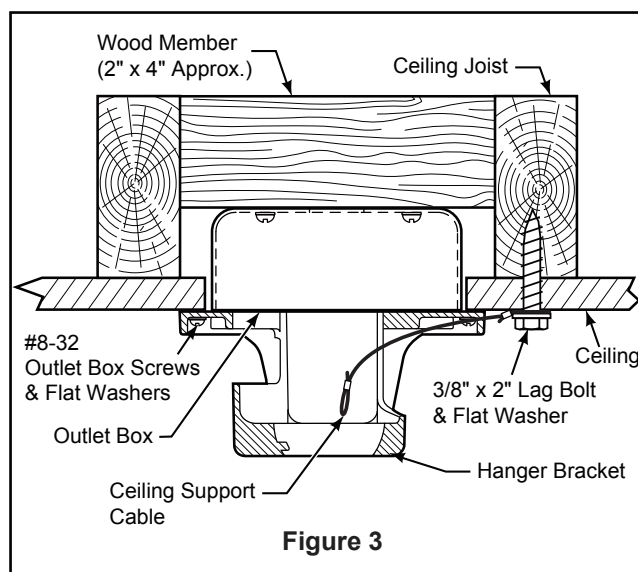

Figure 3
1. Securely attach the hanger bracket to the outlet box using the #8-32 outlet box screws and washers supplied with the fan. (Figure 3)
2. Drill a 1/4" pilot hole into the building structure to prevent splitting or cracking with installation of the lag bolt. Using the 3/8" x 2" lag bolt and flat washer, attach safety cable to ceiling joist or wood structural member. The lag bolt will pass through the flat washer, safety cable loop, and into the building structure. (Figure 3)
NOTE: Ceiling support cable cannot be secured to outlet box only, it must be directly secured to ceiling joist or structural member using the 3/8" x 2" lag bolt and flat washer. (Figure 3)